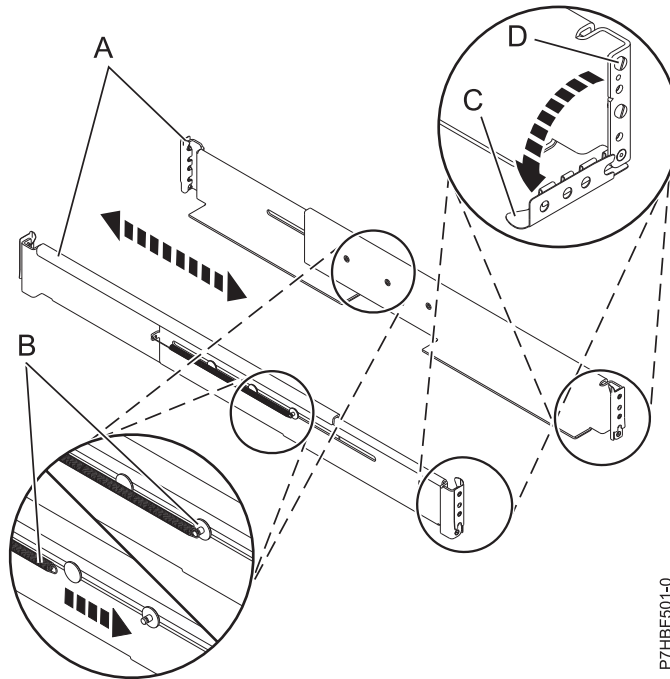

Figure 4. Installing the rails
3. Rotate down the front and back clamps (C) on the left and right rails as shown in Figure 4 on page 7.
4. On each rail, remove the tape that is holding the spring **(B)** to the rail. Hook the end of the spring around the circular standoff on the rail as shown in Figure 4.